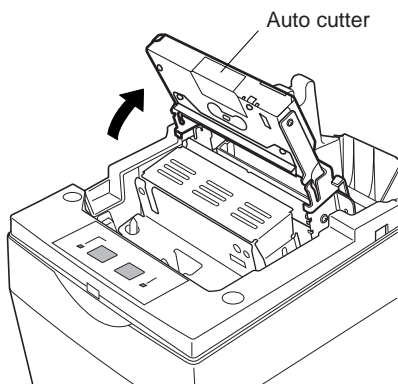

Fig. 6-9 Raise the auto cutter
- ③ Lift up the auto cutter and put it in a vertical position, as shown in Fig. 6-9.